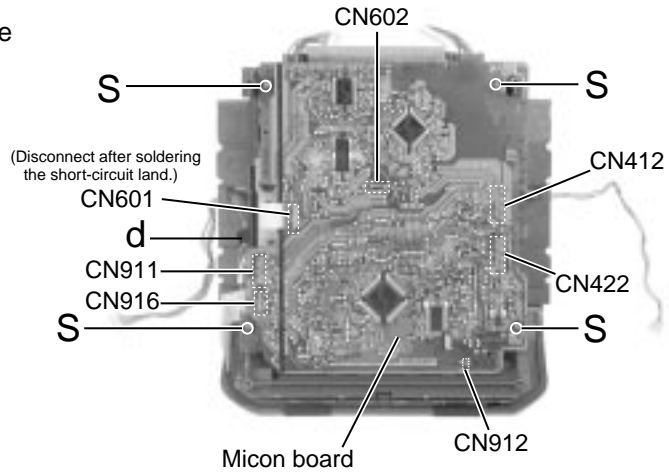

Fig.23
■ **Removing the micon board (See Fig.23)**